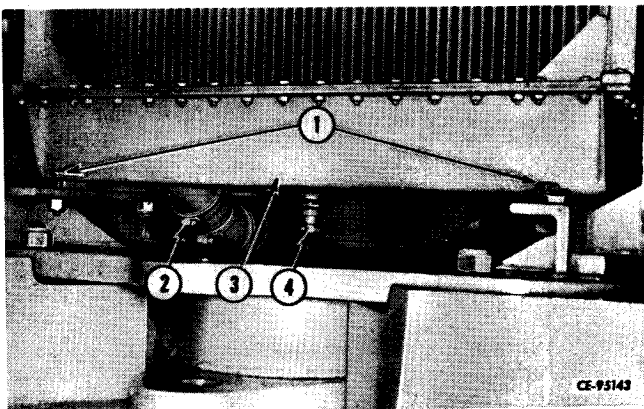

Figure 2-44
Drain radiator (3, Fig. 2-44) into a clean re-sealable container by opening petcock (4). Loosen upper hose clamps (not shown) and remove hoses from top of radiator.